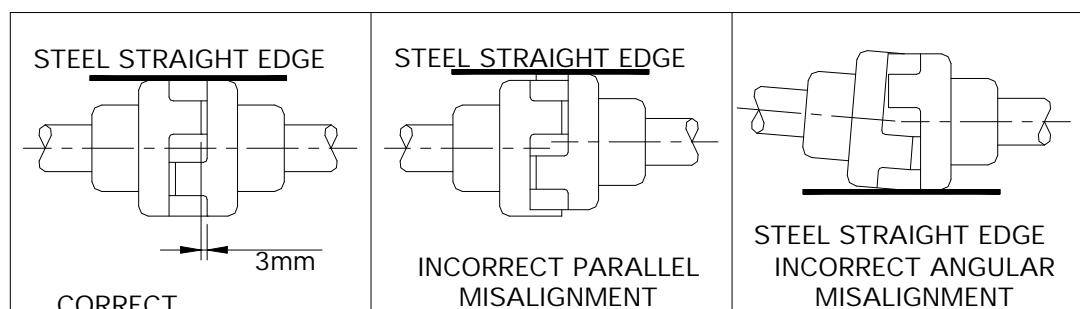

Fig. 1
- ii. Parallel mis-alignment – Shaft with axis parallel but not concentric. Mis-alignment is checked by using straight edge as shown in FIG.1 at 90° apart.